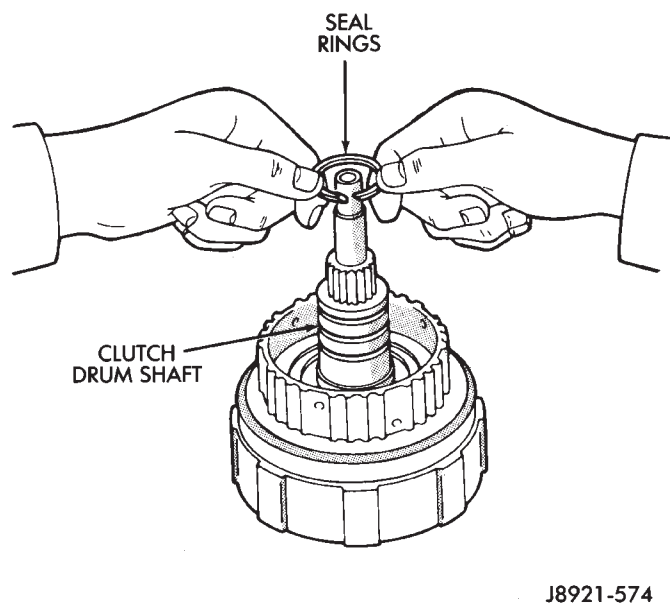

Fig. 8 Removing Clutch Drum Seal Rings
(15) Remove clutch drum O-ring from rear hub of drum.
(16) Remove three seal rings from clutch drum shaft (Fig. 8).